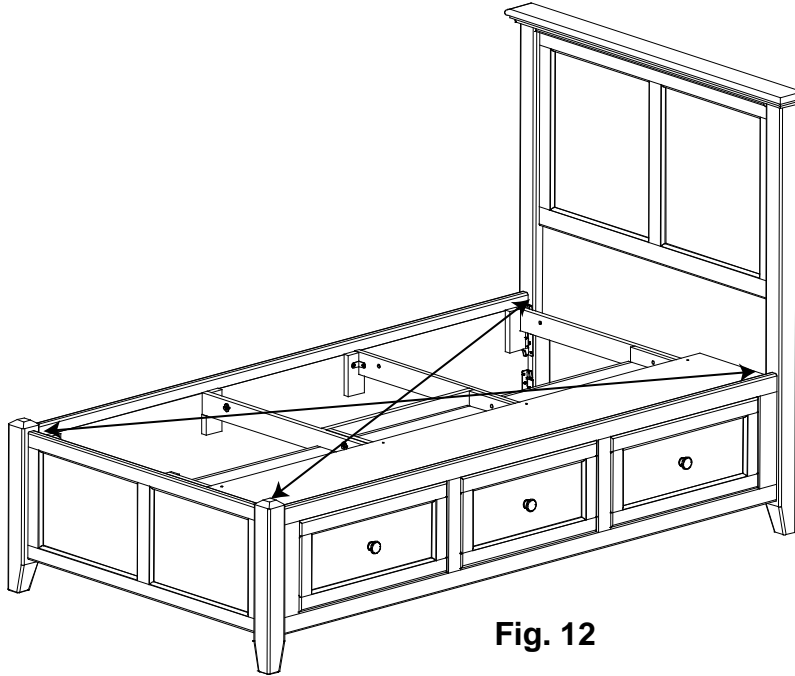

Fig. 12
12. To make sure the bed is square, measure the distance between opposing corners. If one of the measurements is larger tap on a footboard leg until the measurement is equal. See Figure 12.